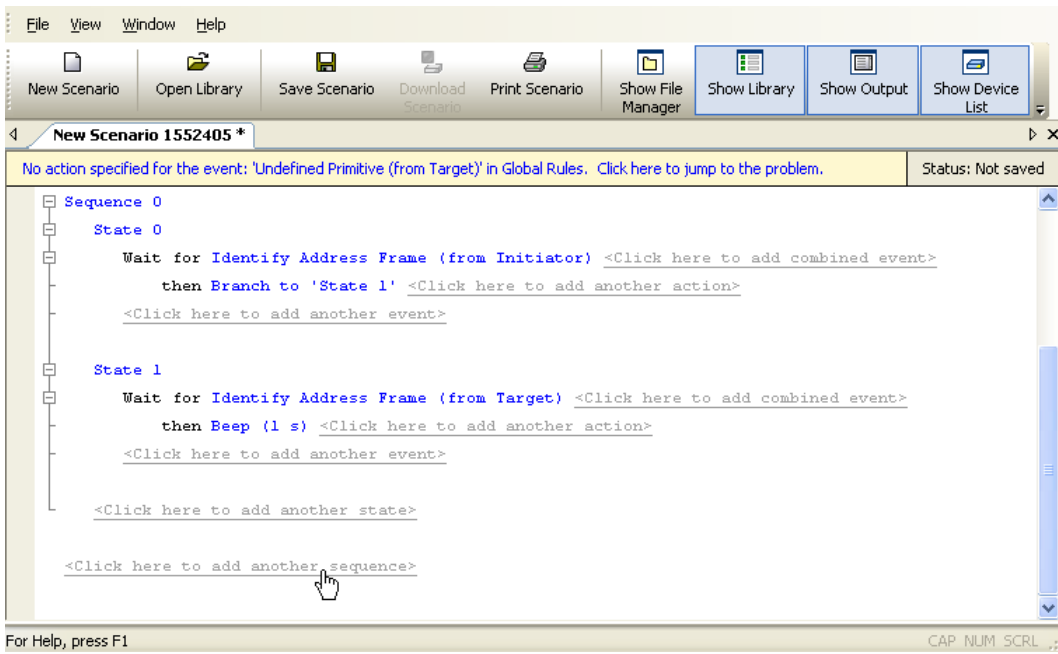

Figure 5.43 Example 7: Adding a Second Sequence
- Step 16** You are finished creating the first sequence. Click on the **add another sequence** prompt to create an area in the scenario for the second sequence (Sequence 1) (Figure 5.43).